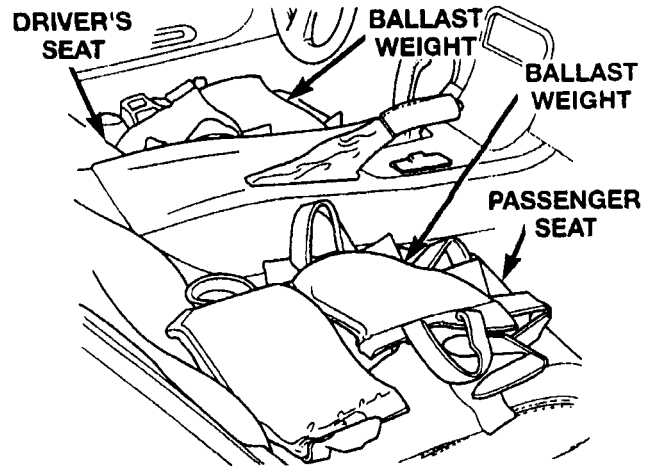

Figure 64
- Add ballast weight as required to the passenger compartment of the vehicle to lower the front of the vehicle to the specified design height (Figure 64).
The approximate total weight needed to lower the vehicle to its design height is 400 lbs. (180 Kg). The weight distribution in the vehicle is about 330 lbs. (150 Kg) in the passenger compartment (165 lbs. (75 Kg) per seat) and 70 lbs. (30 Kg) in the trunk (Figure 64 and 65).